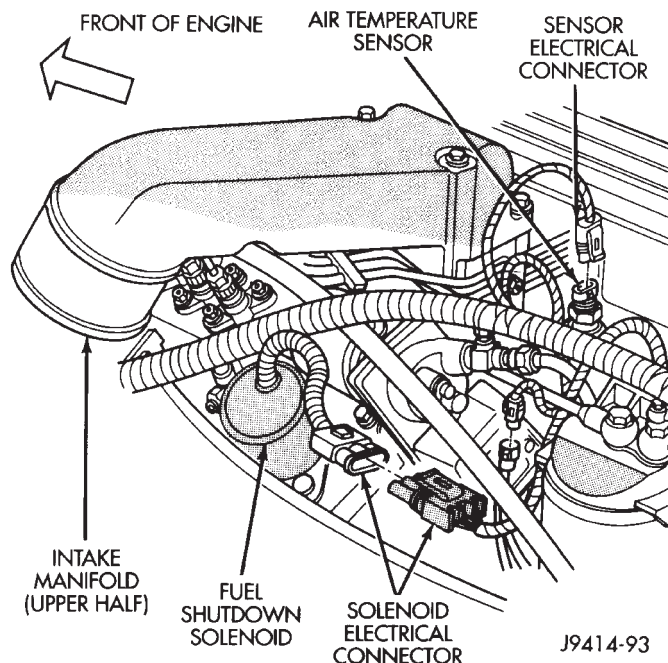

Fig. 10 Fuel Shutdown Solenoid Connector - Diesel Engine
- Unplug the Automatic ShutDown (ASD) relay to prevent a gasoline engine from starting. The ASD relay is located in the Power Distribution Center (PDC). Refer to the PDC label for ASD relay identification and location. To prevent a diesel engine from starting, unplug the fuel shutdown solenoid wire harness connector (Fig. 10).